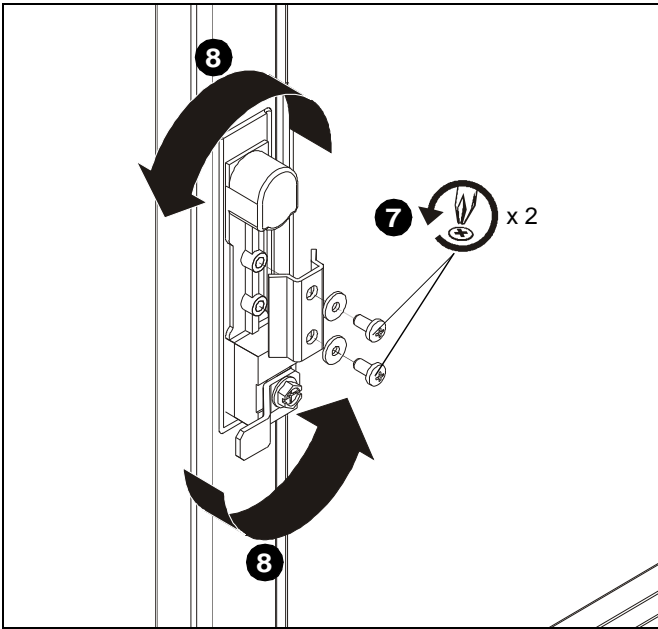

Figure 28
7. Remove screws, washers and bracket from door handle. (See Figure 28)
8. Flip the door handle. (See Figure 28)